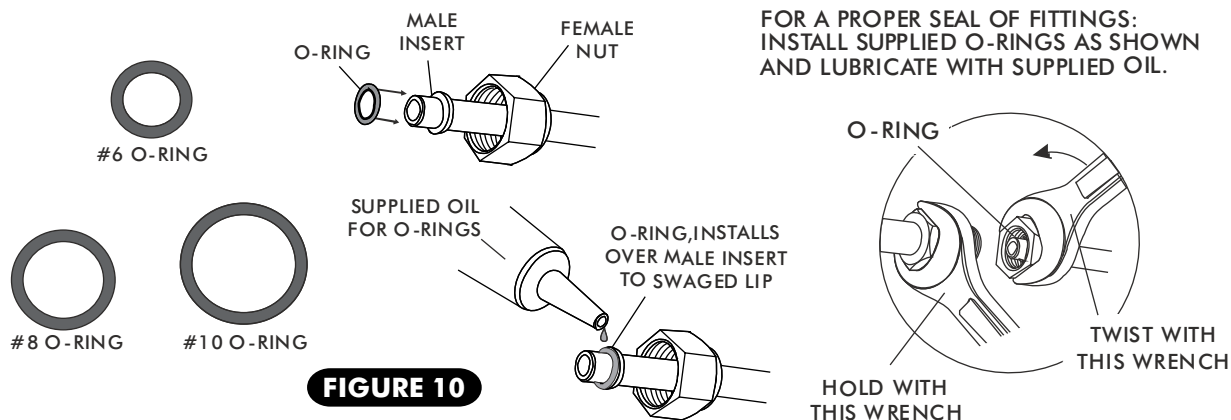

FIGURE 10
- ☐ ON A WORK BENCH INSTALL (2) HEATER FITTINGS WITH PROPERLY LUBRICATED O-RINGS. (SEE FIGURE 10, PAGE 12, AND FIGURE 6, PAGE 10.)
- ☐ LOCATE THE #8 COMPRESSOR A/C HOSE. LUBRICATE (2) #8 O-RINGS (SEE FIGURE 10, ABOVE) AND CONNECT THE 90° FEMALE FITTING TO THE #8 DISCHARGE PORT ON THE COMPRESSOR. ROUTE THE STR FEMALE FITTING w/ 134a SERVICE PORT TO THE #8 CONDENSER HARDLINE COMING THROUGH CORE SUPPORT. SEE FIGURE 11 PAGE 13 AND FIGURE 12 PAGE 14. TIGHTEN EACH FITTING CONNECTION AS SHOWN IN FIGURE 10 ABOVE.
- ☐ LOCATE THE #10 COMPRESSOR A/C HOSE. LUBRICATE (2) #10 O-RINGS (SEE FIGURE 10, ABOVE) AND CONNECT THE #10 135° FEMALE FITTING w/134a SERVICE PORT TO THE #10 SUCTION PORT ON THE COMPRESSOR. ROUTE THE 135° FEMALE FITTING TO THE #10 EVAPORATOR. SEE FIGURE 11, PAGE 13 AND FIGURE 12, PAGE 14. TIGHTEN EACH FITTING CONNECTION AS SHOWN IN 10 ABOVE.
- ☐ LOCATE THE #6 EVAPORATOR A/C HOSE. LUBRICATE (2) #6 O-RINGS (SEE FIGURE 10, ABOVE) AND CONNECT THE STR FEMALE FITTING TO THE DRIER. ROUTE THE 90° FEMALE FITTING TO THE #6 EVAPORATOR. SEE FIGURE 11, PAGE 13 AND FIGURE 12, PAGE 14. TIGHTEN EACH FITTING CONNECTION AS SHOWN IN FIGURE 10, ABOVE.